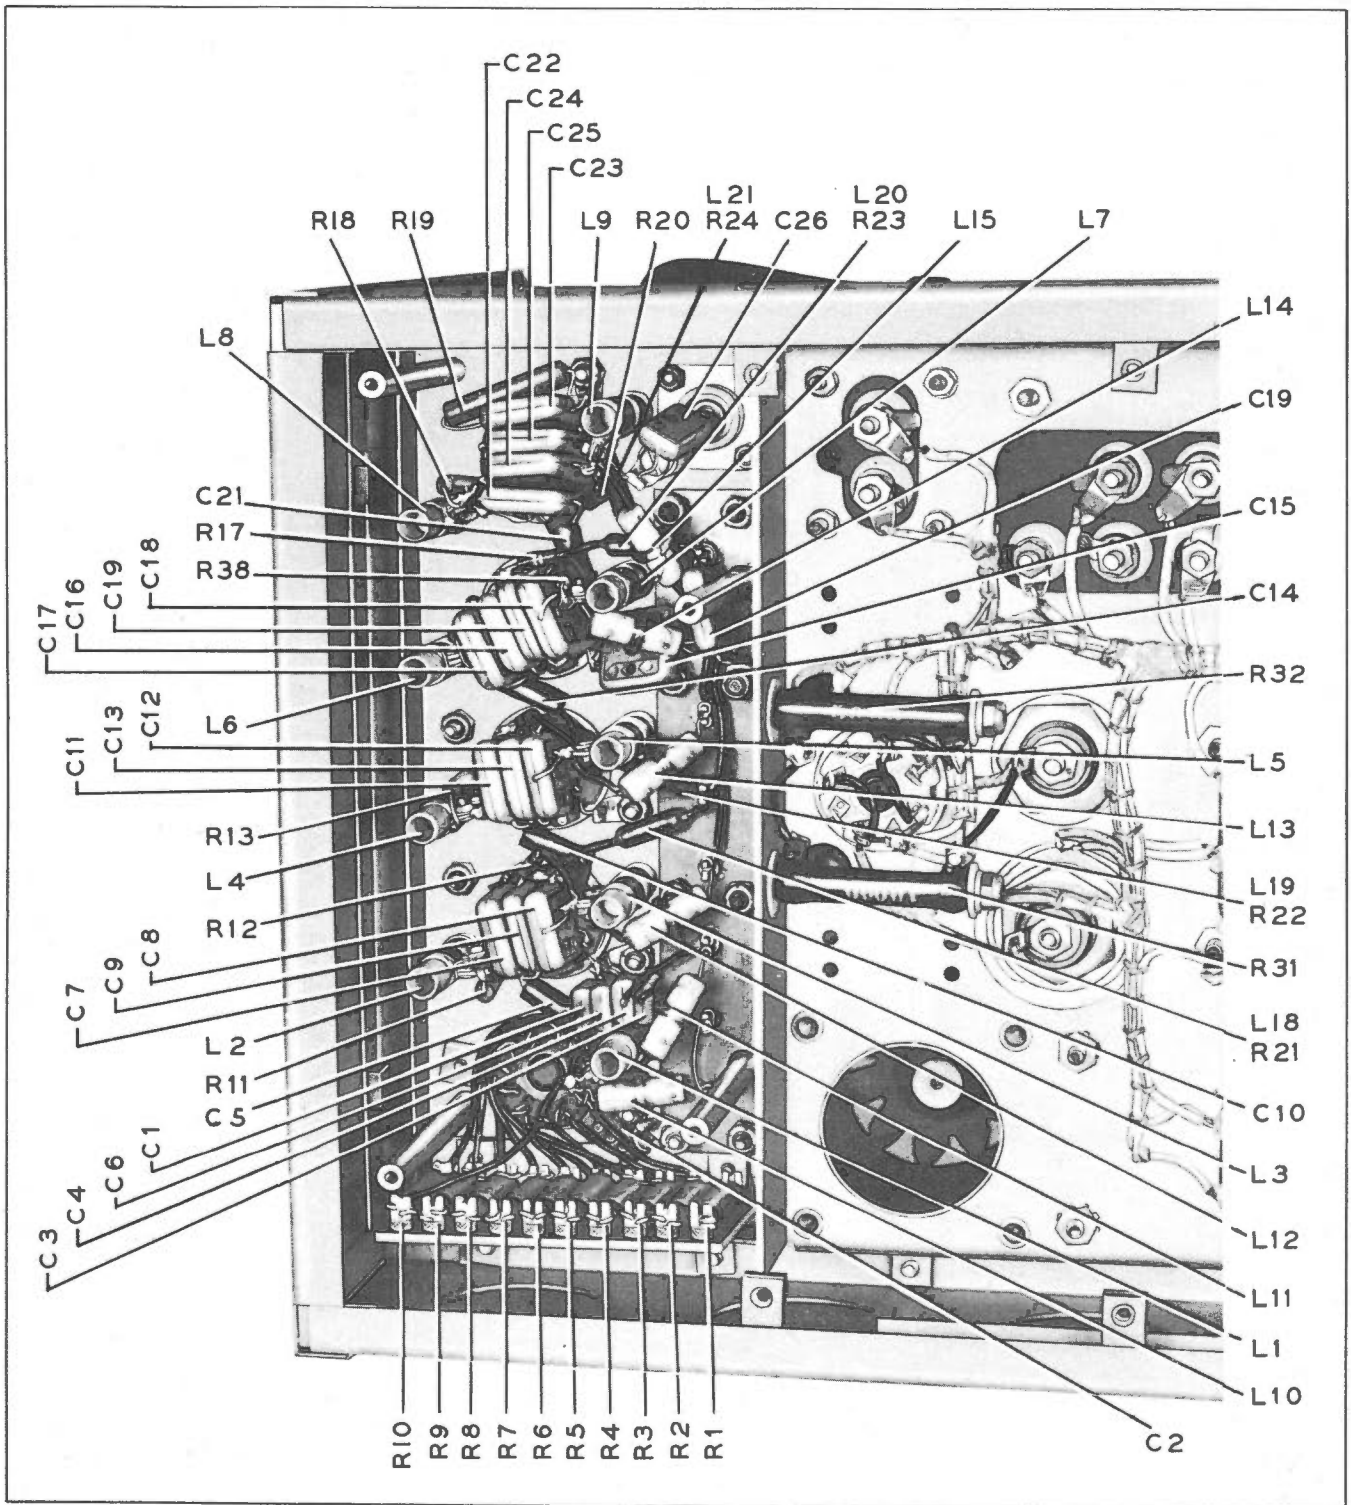

Figure 4-7. Radar Transmitter T-28/APT-1—Bottom View of Hash Generator and Amplifier Section
b. The circuit of the hash generator is shown in figure 4-7. The circuit obtains a d-c voltage supply of 750 volts from the power source. Because of the nature of the power supply circuits, ground potential is at an